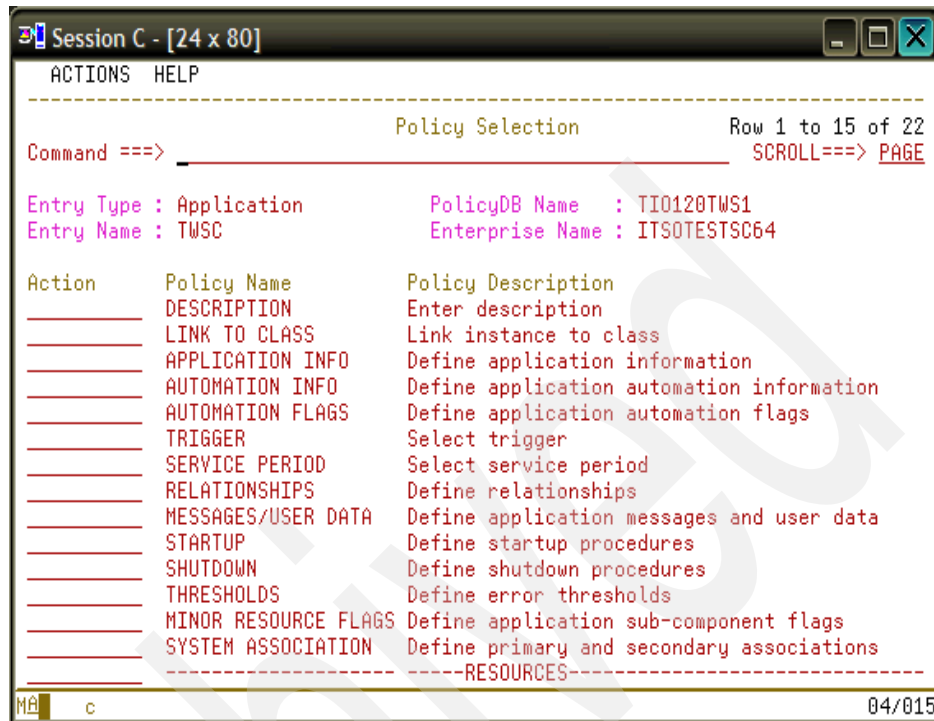

Figure 4-21 Top section of Policy Selection panel for TWS for z/OS controller
- After you enter the data, press **PF3**. The top part of the Policy Selection panel that is shown in Figure 4-21 on page 124 displays.